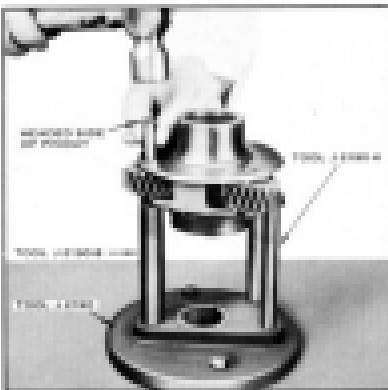

Fig. 518. Inserting New Pin into Assembly
GEAR. (Figs. 518, 527 & 528). With bronze gear removed, proceed as follows to replace pins and pins:
1. Hold the reverse planet carrier assembly in a vice having soft jaws. (Fig. 518)
2. With the use of a $35/64"$ shell, remove the reamed end of each pin. (Fig. 518)